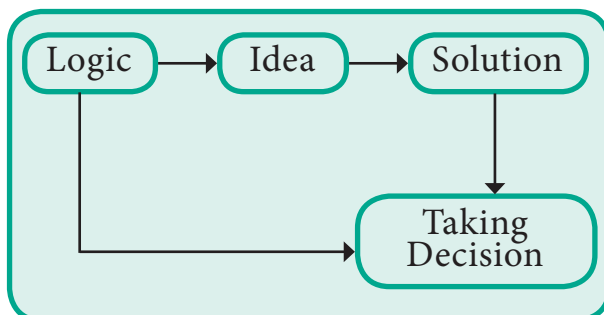

Figure 9.14 Illustration of Logic
**For example:** Assume that there is a long-standing issue in your area where you are residing. You and your friends decided to find a solution for it. What will be your first step? You start to discuss among with your friends regarding that issue. By the time, everyone will say their idea to find a solution. Among these you can select only one, which is going to be the decision. The following illustration shown in Figure 9.14 simply explains the concept “logic”.